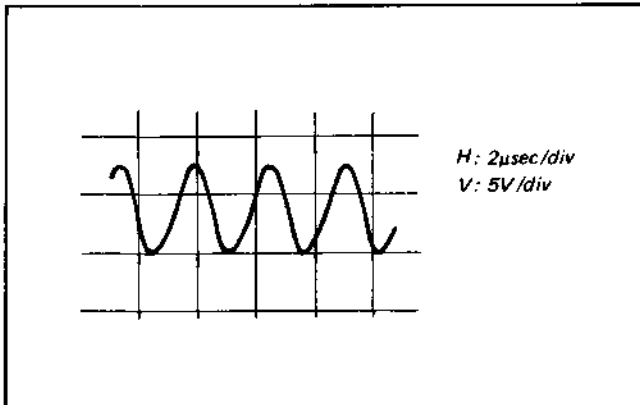

Fig. 4-2-1. Adjustment of clock oscillating frequency
- (1) Connect the frequency counter to pin 42 of IC6.
- (2) Adjust T1 for 400 kHz ± 0.5 kHz. (See Fig. 4-2-1.)
- (1) Connect the frequency counter to pin 42 of IC7.
- (2) Adjust T2 for 400 kHz ± 0.5 kHz. (See Fig. 4-2-1.)